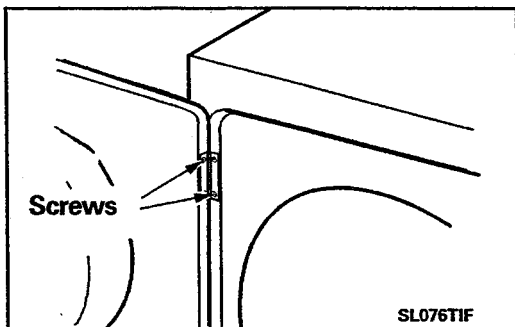

Figure 2-67
1. Open the door and remove the screws in each hinge secured to the inner flange of the front panel in the door opening (*Figure 2-67*).